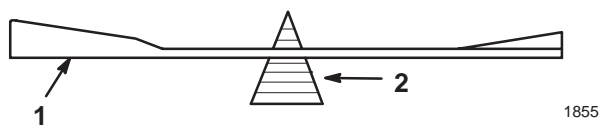

Figure 27
- Check the balance of the blade by putting it on a blade balancer (Fig. 27). If the blade stays in a horizontal position, the blade is balanced and can be used. If the blade is not balanced, file some metal off of the back side of the blade. Repeat this procedure until the blade is balanced.